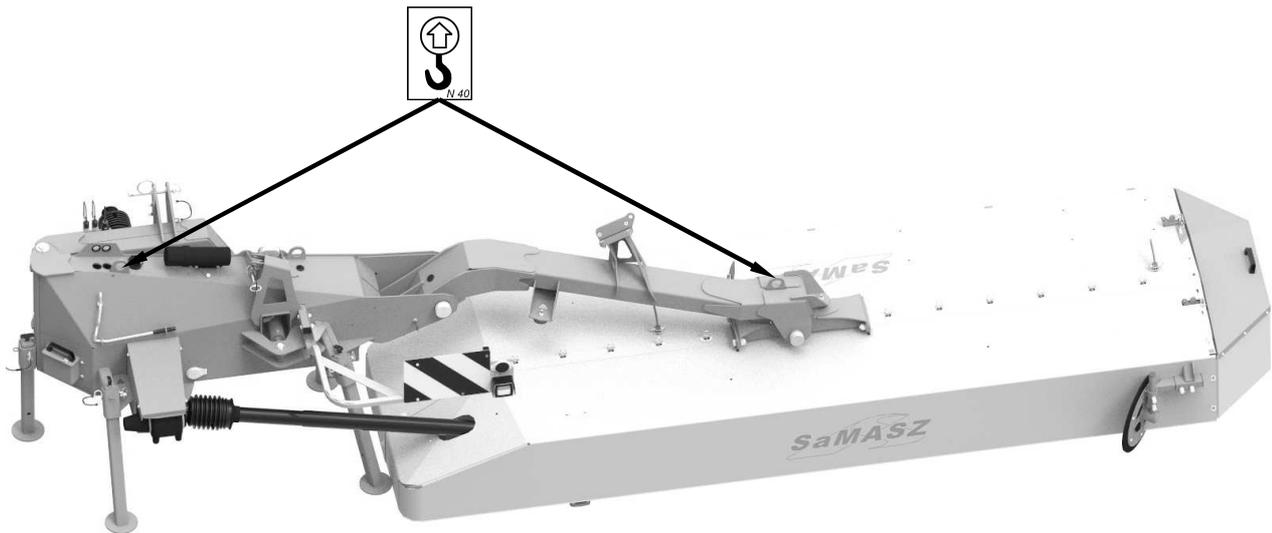

Fig. 5. Transport holders
- ❑ Grab the machine by any lifting devices only in places indicated by hook sign (**Fig. 5**),